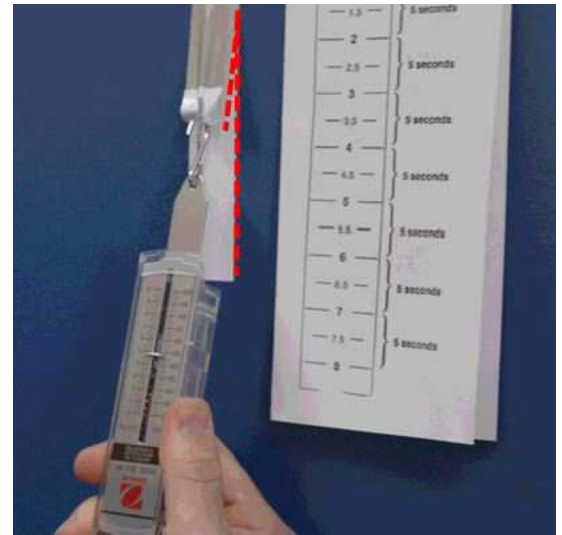

Figure 5. Adhesion test
4. Tape the Measured Reference Guide next to the Product strip you are testing. See Figure 5.
The Measured Reference Guide in Figure 5 is included at the end of this guide.